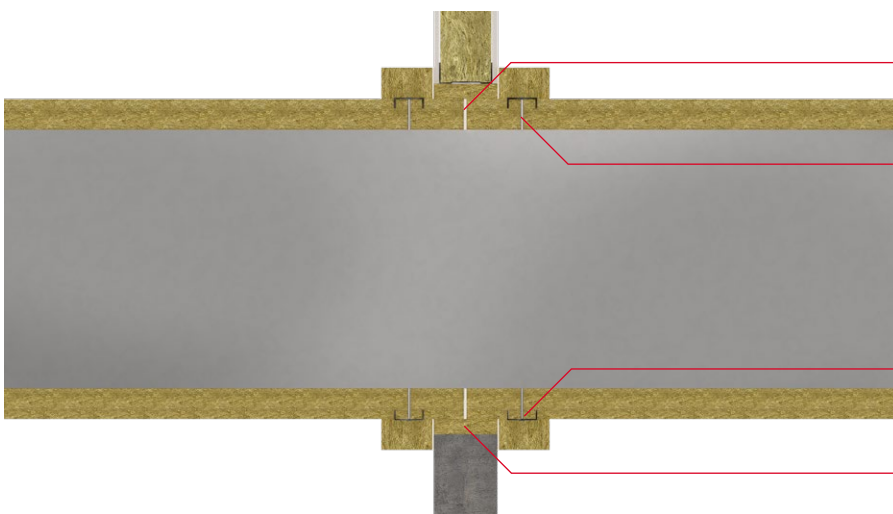

Figure 10
1. A joint in the DuctRock® Slab must be accommodated at the centre point of the aperture, as shown in Figure 10.
4. Before applying the u-profile to the DuctRock® Slab slits must be cut into the insulation to allow the profile sides to penetrate the insulation (Figure 10). The u-profile can be attached to the ductwork using 100mm self-tapping screws. 4No to the top and bottom slabs and 2No to the vertical slabs.